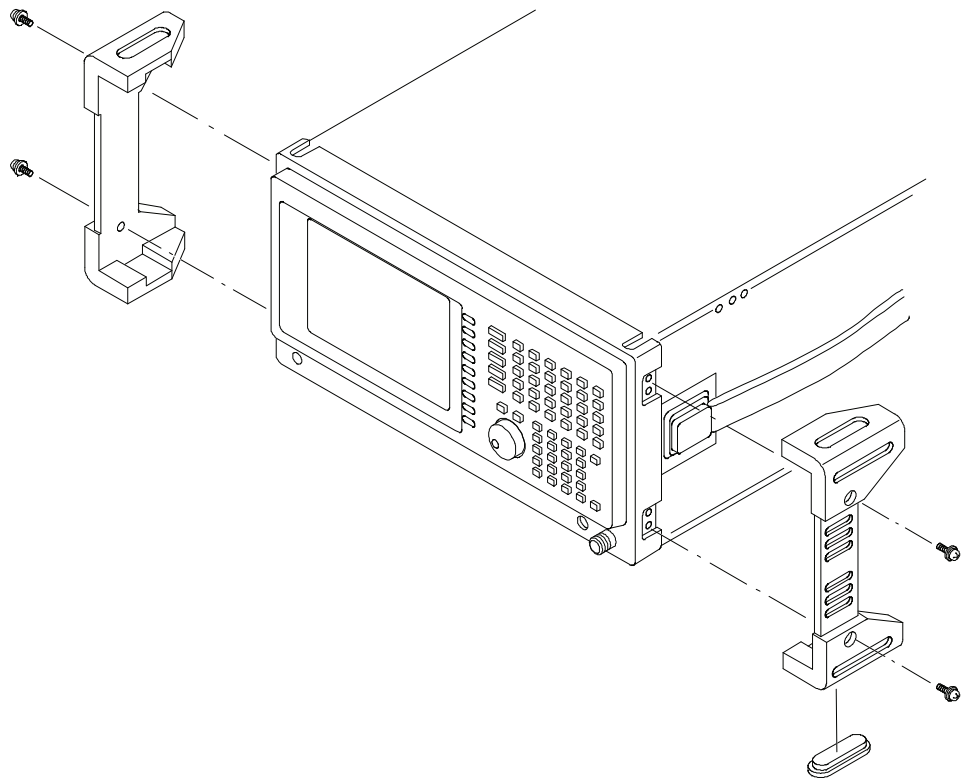

Figure 5-13: Front cushion removal
3. *Remove the front cushion:* See Figure 5-13.